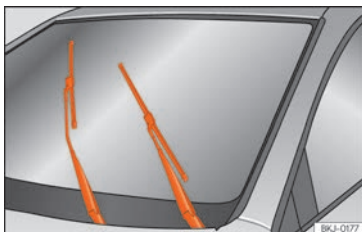

Fig. 82 Wipers in service position.
- Turn the ignition on and off and then (within approximately 9 seconds) push the windscreen wiper lever down (short wipe). The windscreen wipers will move to the service position » **Fig. 82.**